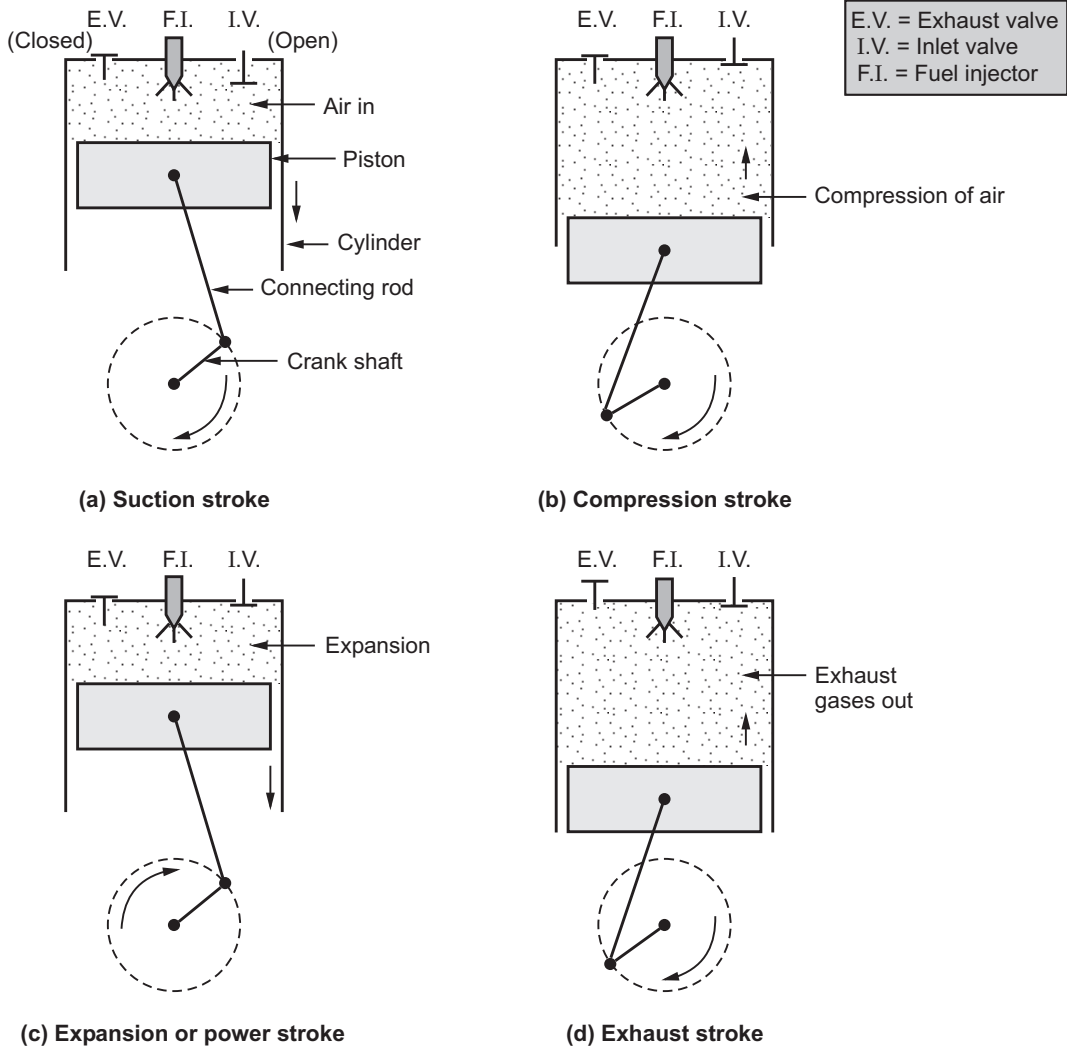

Fig. 4.4 : Four stroke diesel (C.I.) engine
- Diesel engine cycle consists of following four strokes (Refer Fig. 4.4) :